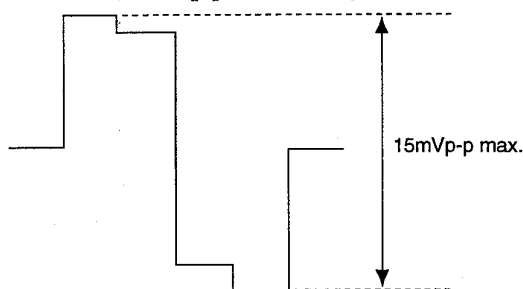

Fig. 5-8
3. Connect the probe of an oscilloscope to IC404 ③⑩ PIN or TP402.
5. Adjust **SUB PHASE** so that the output waveform will be minimum (15 mVp-p or less). (Fig.5-8)